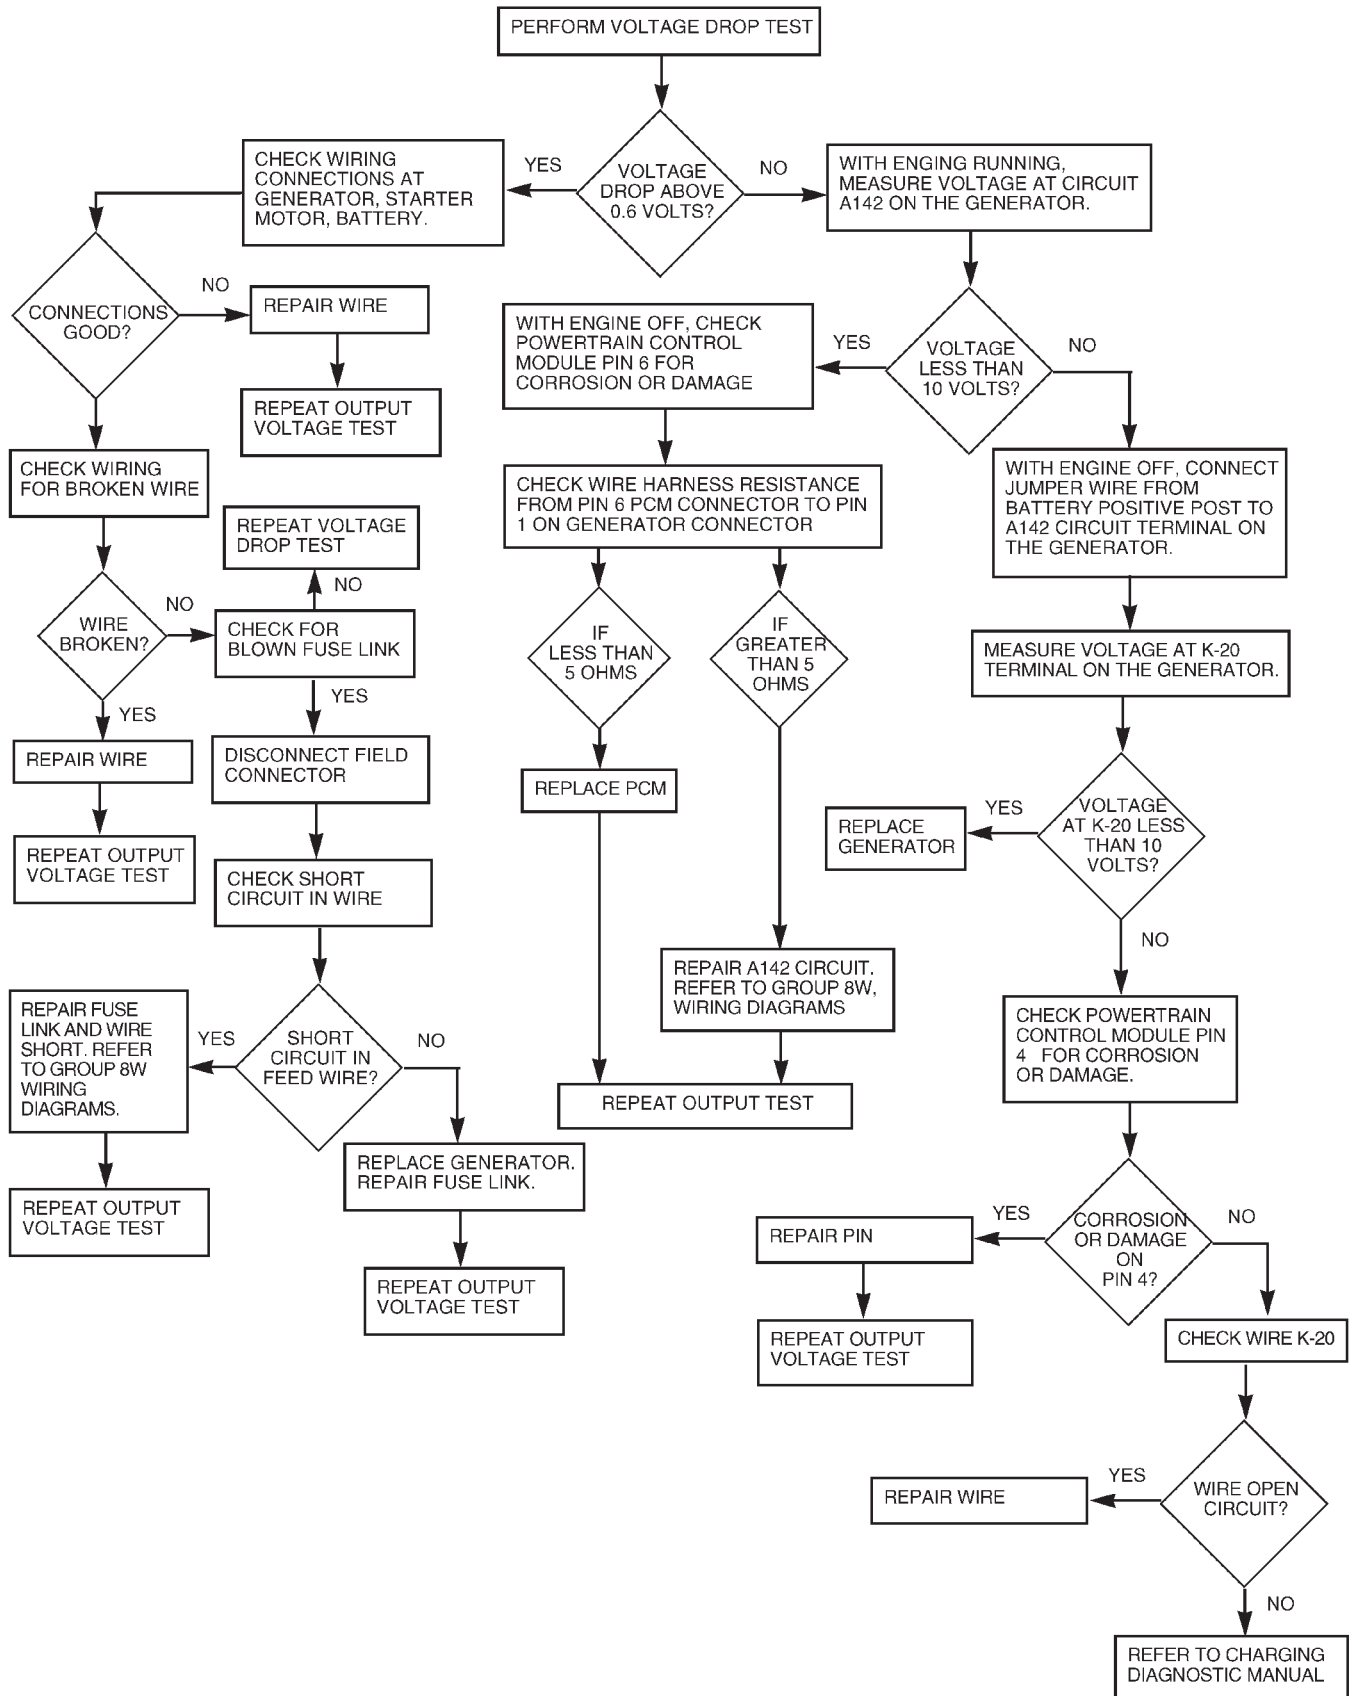

Fig. 6 Voltage Drop Test
(1) Determine if any Diagnostic Trouble Codes (DTC) exist. To determine a DTC, refer to On-Board Diagnostics in this group. For repair, refer to the appropriate Powertrain Diagnostic Procedures manual.
(2) Before starting test, make sure battery is in good condition and is fully-charged. See Group 8A, Battery for more information.
(3) Check condition of battery cables at battery. Clean if necessary.
(4) Perform the previous Output Wire Resistance Test (voltage drop test) (Fig. 6). This will ensure clean and tight generator/battery electrical connections.
(5) Be sure the generator drive belt is properly tensioned. Refer to Group 7, Cooling System for information.
(6) A volt/amp tester equipped with both a battery load control (carbon pile rheostat) and an inductive-type pickup clamp (ammeter probe) will be used for this test. Refer to operating instructions supplied with tester. When using a tester equipped with an inductive-type clamp, removal of wiring at the generator will not be necessary.
(7) Start the engine and allow it to reach operating temperature.
(8) Shut engine off.
(9) Turn off all electrical accessories and all vehicle lighting.
(10) Connect the volt/amp tester leads to the battery. Be sure the carbon pile rheostat control is in the OPEN or OFF position before connecting leads. See Load Test in Group 8A, Battery for more information. Also refer to the operating instructions supplied with test equipment.
(11) Connect the inductive clamp (ammeter probe). Refer to the operating instructions supplied with test equipment.
(12) If volt/amp tester is not equipped with an engine tachometer, connect a separate tachometer to the engine.